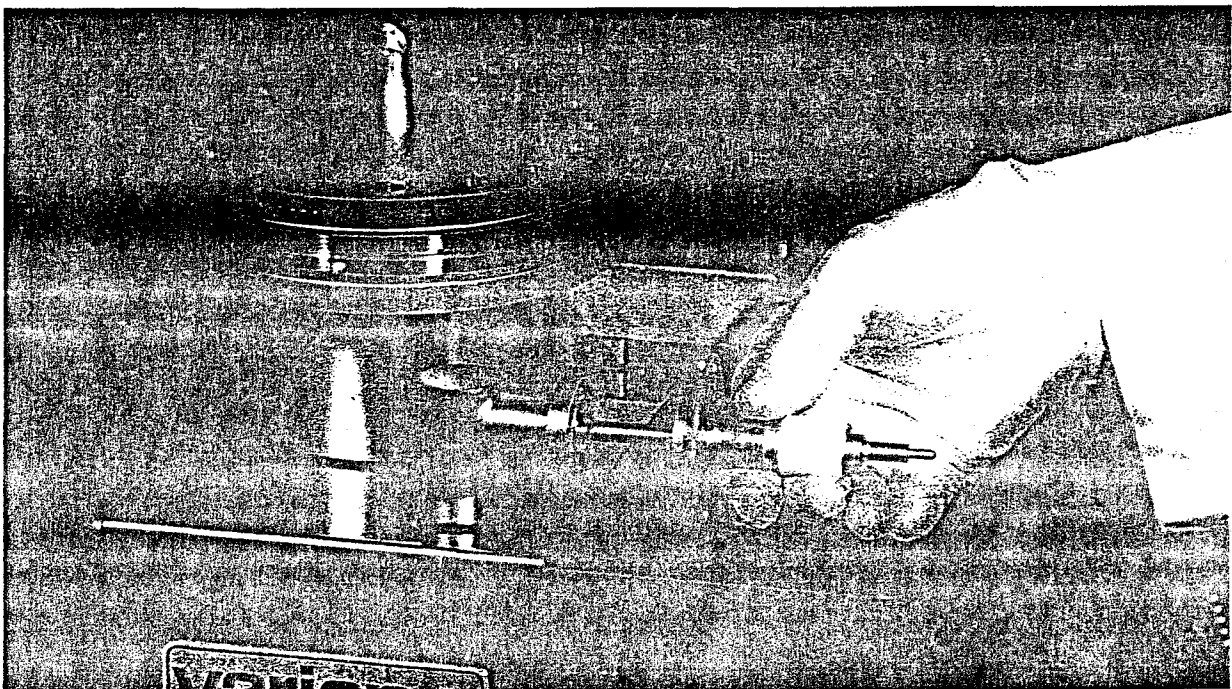

Figure 4-2 - High voltage feedthrough connection
- 1) Remove the 6 bolts of the Mini-ConFlat flange connection (see Fig. 4-2).